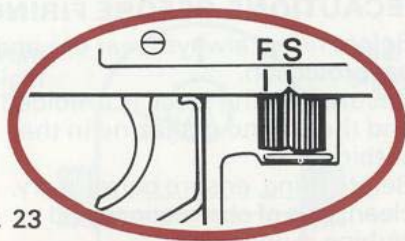

fig. 23
6. Move the fire selector to "S" (Safe). (fig. 23).
1. Place fire selector on "S" (Safe). (fig. 23).